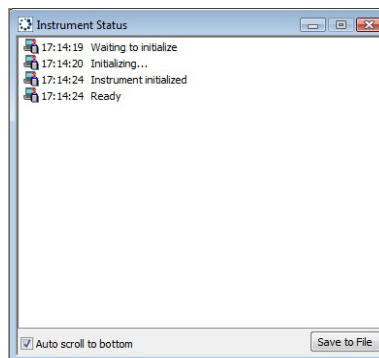

FIGURE 2.5. INSTRUMENT STATUS WINDOW IN OCTET DATA ACQUISITION SOFTWARE.
- 1.8. The Octet instrument proceeds through the initialization routine. When initialization is successful, the Instrument Status Window (Figure 2.5) displays the message "Ready". Record any corrective actions under **Comments** at the end of this section.
- 1.1. Locate the Instrument Status Window in Octet data acquisition software (Figure 2.5).